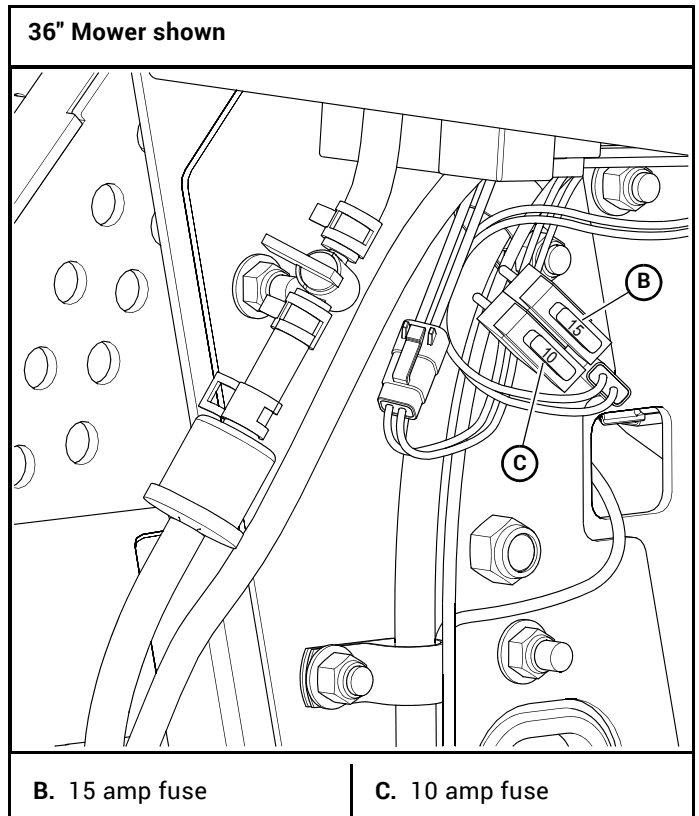
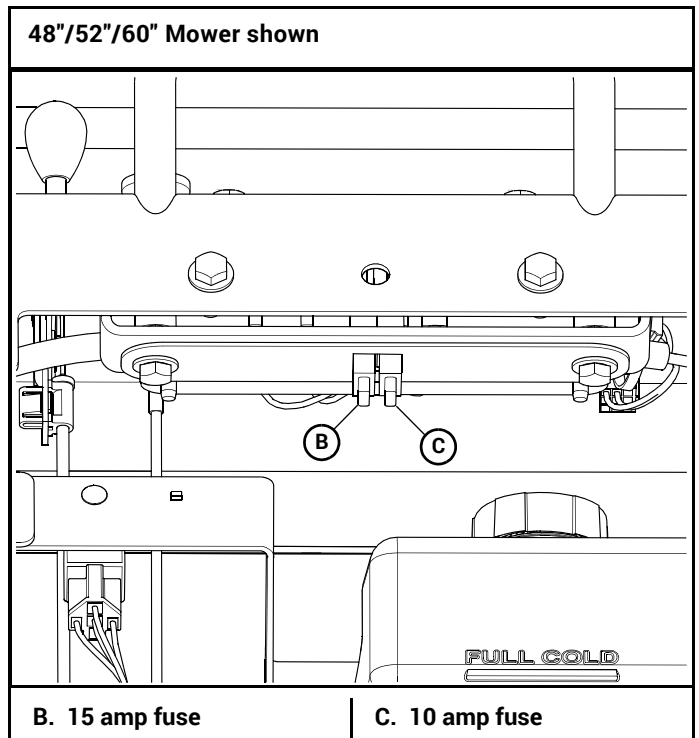

Figure 4-2
Figure 4-3
- B. Deck clutch fuse (15 amp)** – This fuse protects the deck clutch. It is located under the right front of the control panel. Figure 4-2 & Figure 4-3
- C. Ignition/Safety system fuse (10 amp)** – This fuse protects the ignition and safety circuit components. It is located under the right front of the control panel. Figure 4-2 & Figure 4-3